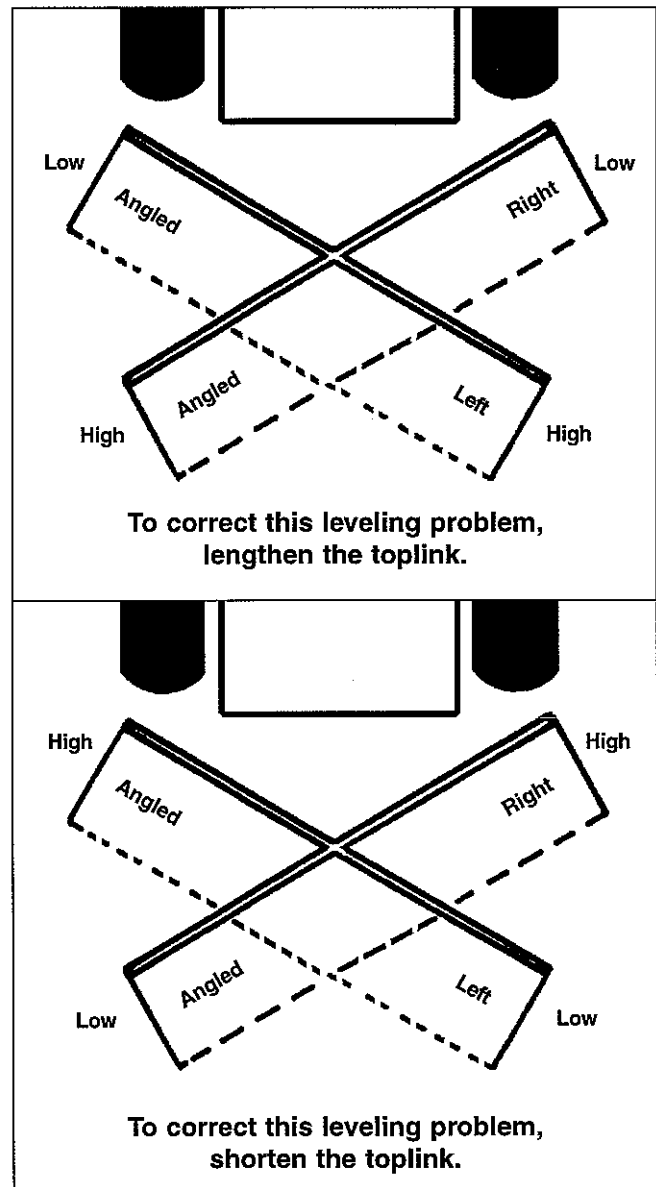

figure 18
- If measurements are not equal, level the mounting assembly with the toplink. Follow instructions shown in figure 18. Then, go back to the beginning of step 5; repeat until the sweeper is level.